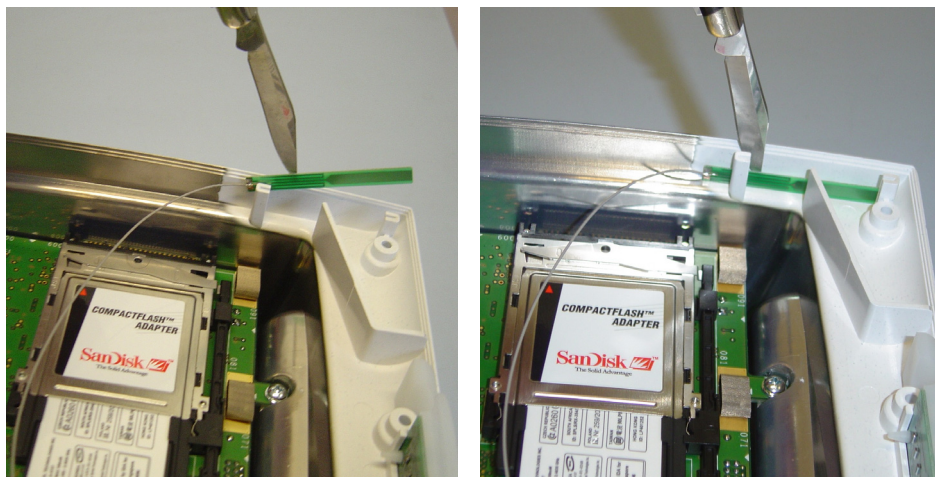

Figure 4-15: Antenna installation, using a knife blade as a guide
- c Use the knife or screwdriver to guide the antenna to the correct installation point (refer to *Figure 4-15*). Ensure that the antenna cable is not stressed or kinked.